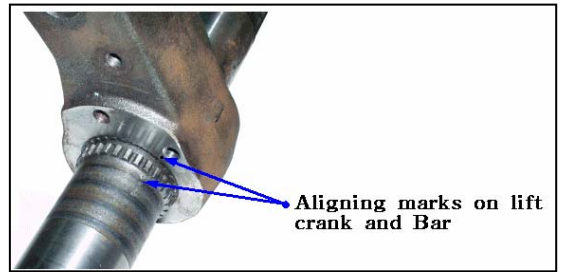

Fig.9-23
- 5) Install the lift shaft and lift crank together in accordance with the aligning marks on them. (Fig.9-23).Apply grease to the roll bush.